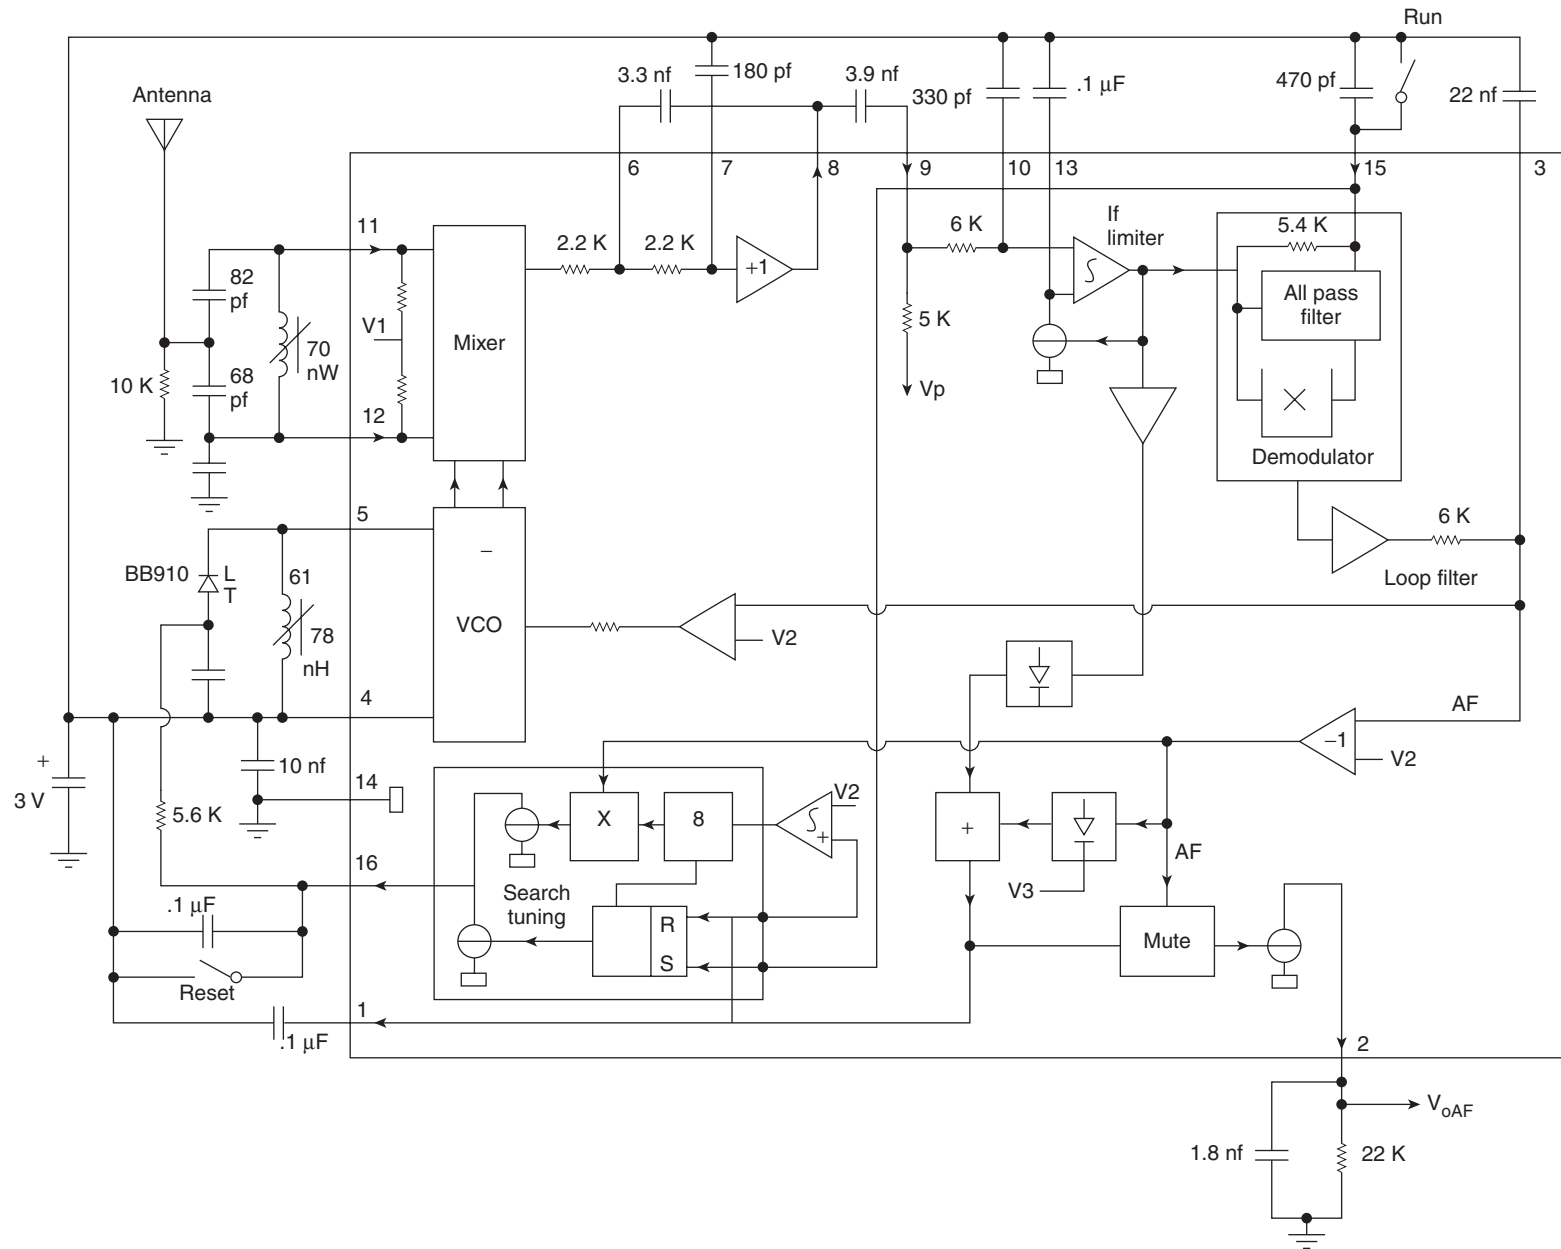

Figure 12-10 TDA-7088T FM receiver block diagram
At the heart of the FM receiver circuit is U4, a TDA7088T FM receiver chip. This IC has a frequency-locked loop system with intermediate frequency (IF) 70 KHz. The IF can be chosen by active RC filters. The receiver is tuned via pushbutton switches, which select the desired radio stations. A block diagram of the FM receiver chip is shown in Figure 12-10.